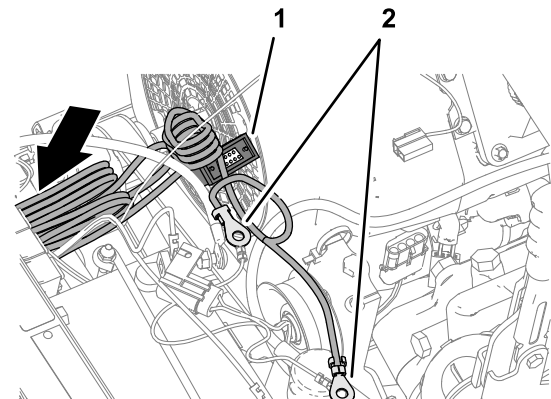

Figure 187
2. Route the ring terminals of the modem power harness labeled BATTERY and GROUND toward the battery (Figure 187).